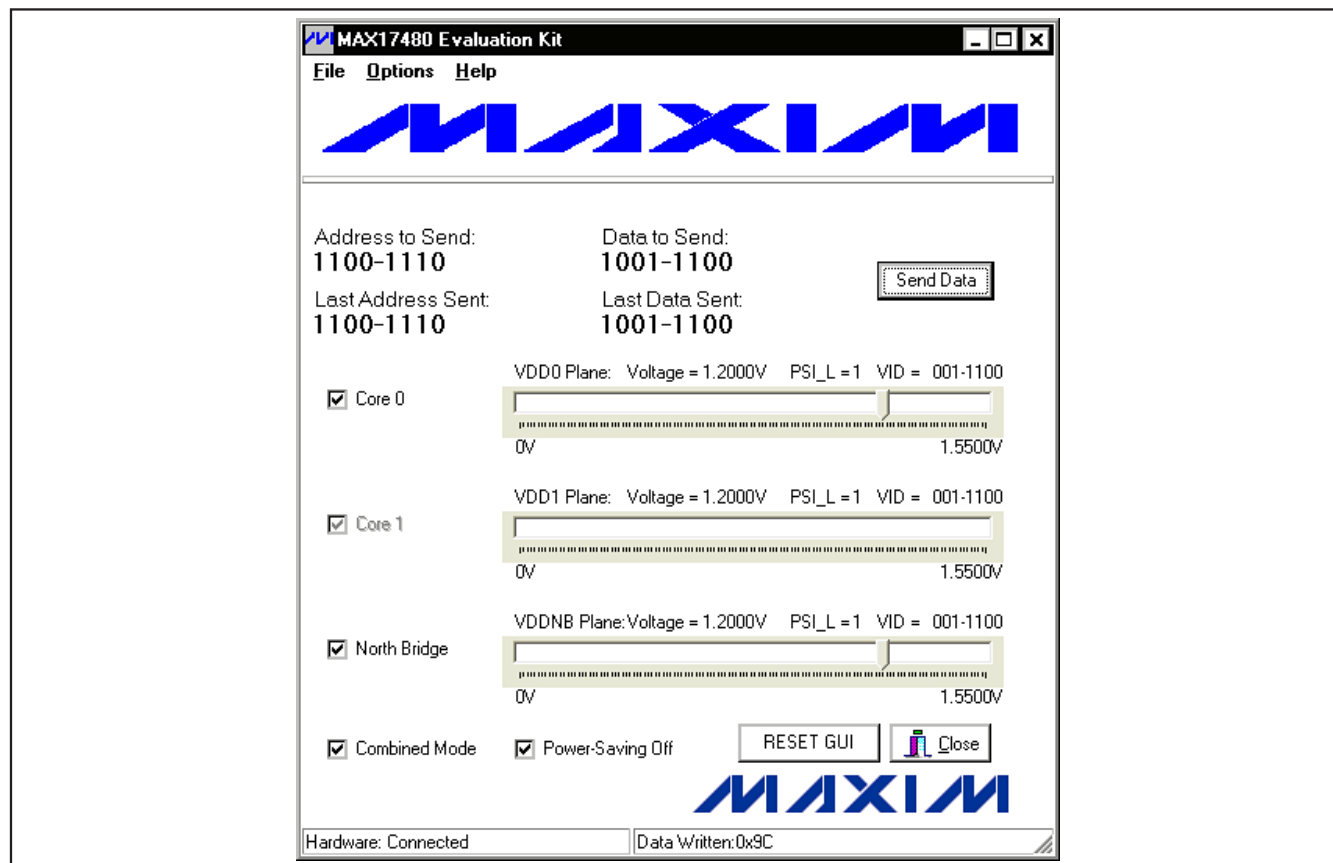

Figure 1. MAX17480 EV Kit Software Main Window
- 9) Start the EV kit software by opening its icon in the **Start | Programs** menu. The EV kit software main window should appear, as shown in Figure 1.
The main window of the evaluation software (Figure 1) displays **Address to Send**, **Data to Send**, **Last Address Sent**, and **Last Data Sent** status. In addition, the GUI allows the user to select **Combined Mode**, **Core 0**, **Core 1**, and/or **North Bridge** outputs.